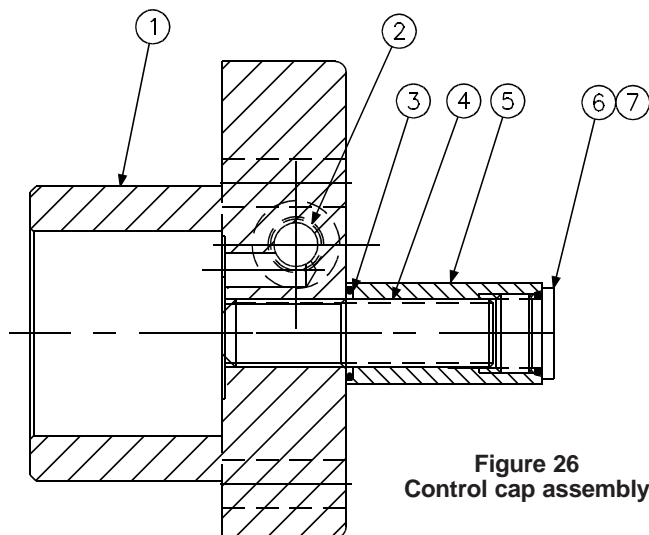

Figure 26
PARTS LIST FOR FIGURE 26
1. **See Figure 26.** Remove nut (5) and Max. volume screw (4).